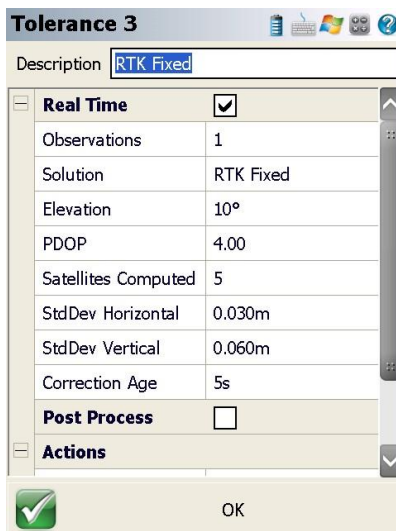

Figure 58: Tolerance 3/RTK Fixed
6. On the **Tolerance 3** dialog box (refer to Figure 58), set the parameters and click **OK**.